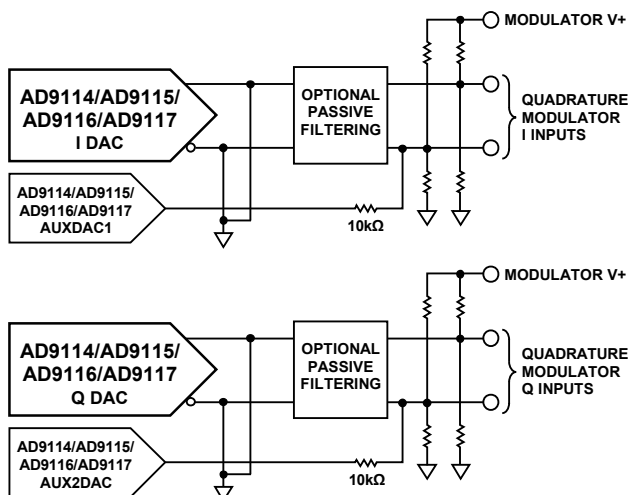
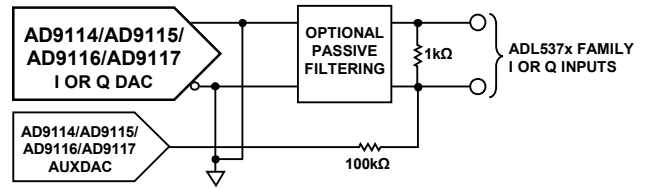

Figure 93. Typical Use of Auxiliary DACs
Figure 94. Typical Use of Auxiliary DACs When DC Coupling to Quadrature Modulator ADL537x Family
The auxiliary DACs can be used for local oscillator (LO) cancellation when the DAC output is followed by a quadrature modulator. This LO feedthrough is caused by the input referred dc offset voltage of the quadrature modulator (and the DAC output offset voltage mismatch) and can degrade system performance. Typical DAC-to-quadrature modulator interfaces are shown in Figure 93 and Figure 94. The input common-mode voltage for the modulator could be higher than the output compliance range of the DAC, even with the  $R_{CM}$  feature so that ac coupling or a dc level shift is necessary. If the required common-mode input voltage on the quadrature modulator is within that of the DAC, the dc blocking capacitors in Figure 93 can be removed. The 50  $\Omega$  resistors can, of course be omitted, if the internal resistors are used. A low-pass or band-pass passive filter is recommended when spurious signals from the DAC (distortion and DAC images) at the quadrature modulator inputs can affect the system performance. Placing the filter at the location shown in Figure 93 and Figure 94 allows easy design of the filter because the source and load impedances can easily be designed close to 50  $\Omega$  for a 20 mA full-scale output.